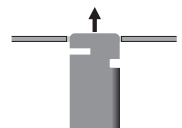

Figure 2
3. Insert the slotted mounting tabs on the right end of the IT-42 into the slots in the amplifier chassis (Figure 2).